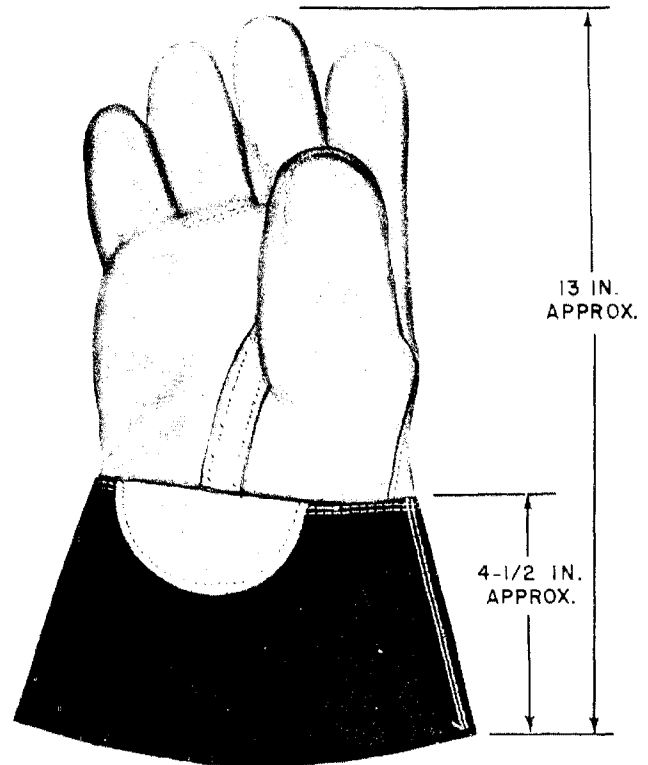

Fig. 2—Leather Protector Glove
3.02 B and C Leather Protector Gloves are of the gauntlet type. The over-all length is about 13 inches and the cuff is about 4-1/2 inches wide. Fig. 2, a C Leather Protector Glove, illustrates these dimensions.